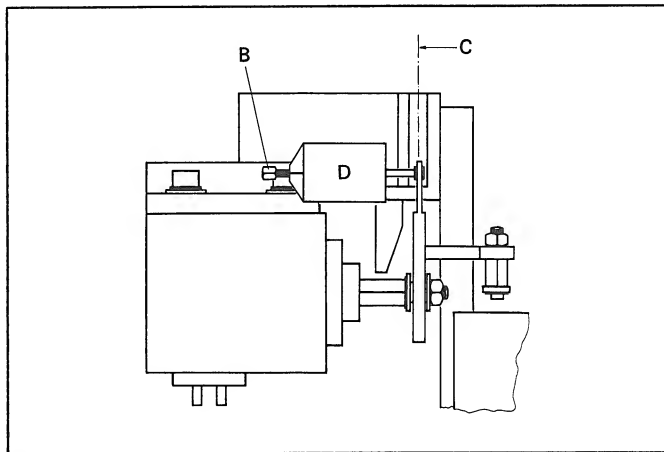

Fig. 3.6
- Alternately press PLAY and STOP keys and observe the movement of the pivoting carrier. By turning the hexagon nut [B] on the dashpot (Fig. 3.6), adjust the damping action in such a way that the pivoting carrier moves steadily and without jerking into the PLAY or STOP position.
The dashpot should be adjusted in such a way that the pivoting carrier (cassette inserted) moves quickly but without excess stopping noise into the corresponding position when the PLAY and STOP keys are pressed. This movement should be completed within 0.5 to 0.8 s. If the pivoting carrier blocks occasionally, the freedom of movement of the dashpot [D] (Fig. 3.6) and the shaft [C] should be checked.